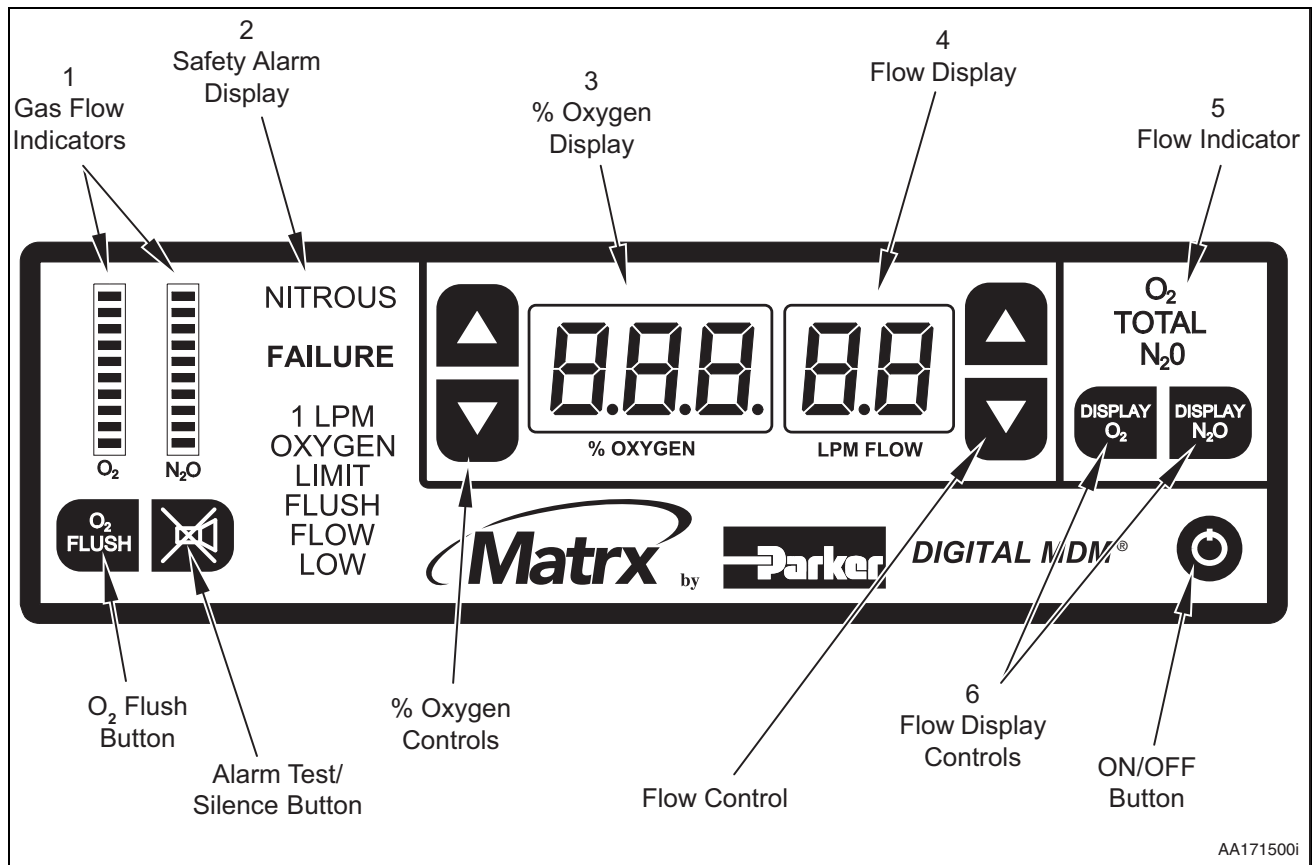

Figure 1. Matrix DIGITAL MDM® Mixer Front Panel (figure shows all LEDs illuminated)
Description of Unit: The DIGITAL MDM® mixer is shown in Figure 1. The device permits the operator to adjust the percent of oxygen through a range of 100% to 30% (and thereby control the ratio of oxygen to nitrous oxide). The operator can also control the total volume of mixed gas up to 9.9 liters per minute.
Displays and Indicators: In the following, the location numbers refer to Figure 1.
There are four alarm conditions on the DIGITAL MDM® mixer. They appear in the safety alarm display (see Figure 1, item 2) only when conditions warrant. Otherwise, they are not visible. The alarm conditions are:
Press the ON/OFF key, as shown in Figure 1. After the device goes through an initialization routine, the % OXYGEN and LPM FLOW displays should indicate 100% and 5 LPM.
Press the alarm test / silence key, as shown in Figure 1, and observe that all the alarm readouts illuminate. The % OXYGEN and LPM FLOW displays should show 8.8.8. and 8.8 respectively. The alarm readouts should illuminate with the numerical displays. 10 bars on each gas should illuminate. The audible alarm should also sound.
Set the % OXYGEN display to 100%. Press the [▼] flow key and hold, as shown in Figure 1. The flow rate should decrease to 1.0 LPM. An audible alarm sounds at the lower limit while the key is held. Press the [▲] flow key and hold. The flow rate should increase to 9.9 LPM. An audible alarm will sound at the upper limit as long as the key is held.
Set the LPM FLOW display to 9.9 LPM. Press and hold the [▼] % OXYGEN key. The % OXYGEN display should decrease to 30%. The audible alarm sounds at the lower limit while the key is held. Press and hold the [▲] % OXYGEN key, as shown in Figure 1. The % OXYGEN display should increase to 100%. An audible alarm sounds at the upper limit while the key is held.